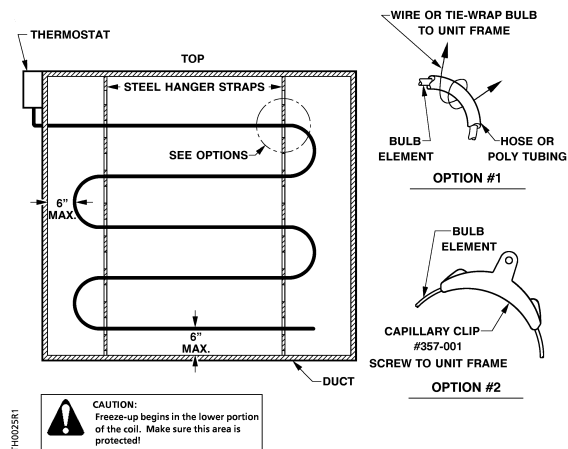

Figure 1. Typical Mounting in Walk-in Duct.
Large Walk-in Ducts (Figure 1)
6. Mount the bulb in a horizontal serpentine manner. Attaching the bulb to the strap as shown in the detail in *Figure 1*.